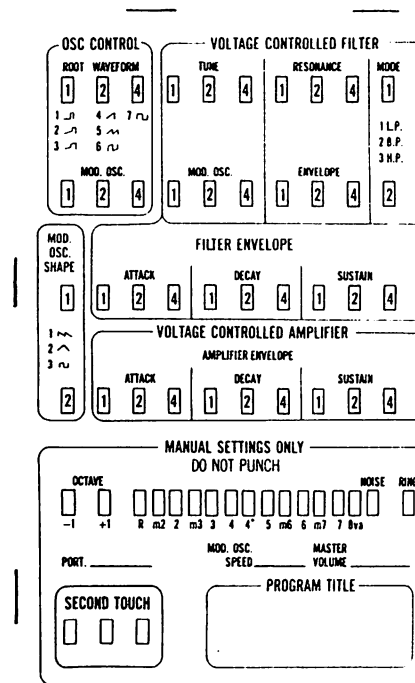

Fig. 8 Program Card
A. USING PROGRAM CARDS — Select a prepunched card from those provided. See Figure 8. Insert it firmly into the card reader slot, printing side up with the cut corner to the left. (Never put anything into the slot but a factory supplied card — make sure cards are clean and do not have bits of tape or other debris on them. The reader is a precision device and rather expensive.)